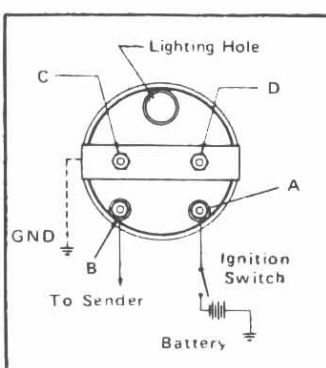

FIGURE 3
- Figure 3, **FOUR TERMINALS**: (A) for wire to ignition, (B) for wire to sending unit, (C) and (D) for mounting bracket and ground wire.